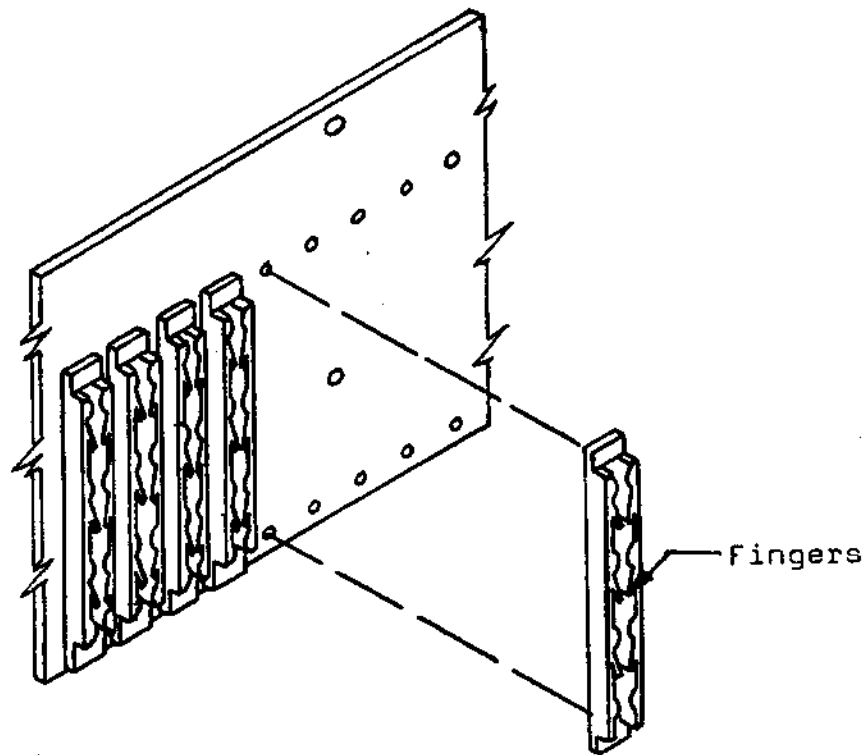

FIG. 8
- ( ) Locate the 38 Card guides. Referring to Fig. 8 and the insert position a card guide with the "fingers" pointing down. Then push the guide into the front most holes in the side plate. This is best done by rocking the guide as you push the plastic pin through the hole. It is also easier if you push each end of the card guide in separately. You may also find it helpful to squeeze together the plastic pins with a pair of pliers before you push them in place.